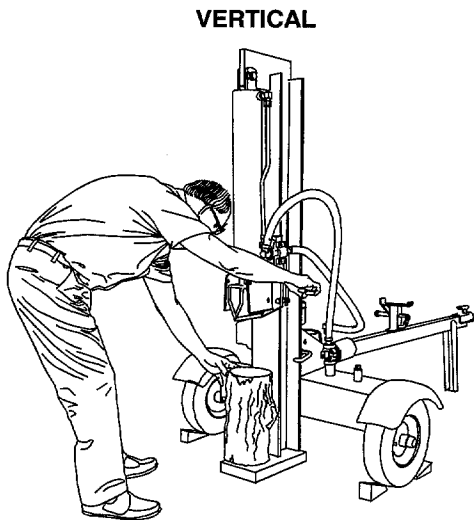

Figure 10
- Stand in front of the log splitter to operate the control handle and to stabilize the log. See Figure 10.